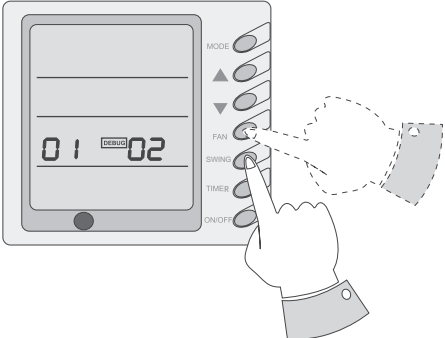

Fig 11
10) Malfunction display (Fig.11)